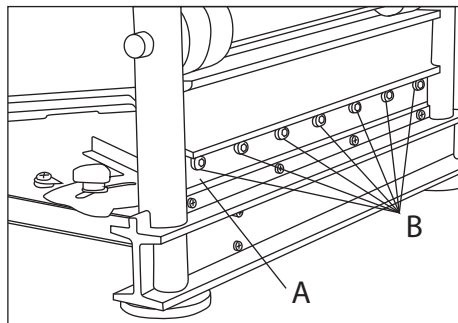

FIGURE 8
- To remove the blade (Fig. 8-A), remove the seven allen head screws (Fig. 8-B) using the supplied hex. key. Carefully remove the blade.